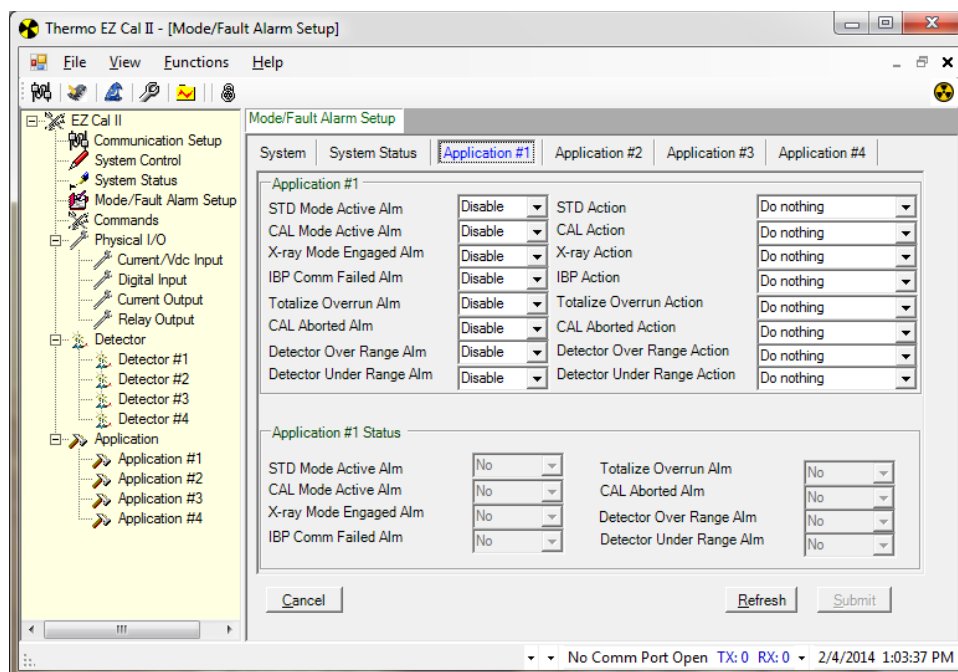

Figure 4-8. Mode/Fault Alarm Setup, Application Tabs
- The Application tabs (#1 - #4), shown in Figure 4-8, allow the user to configure application-specific alarms.